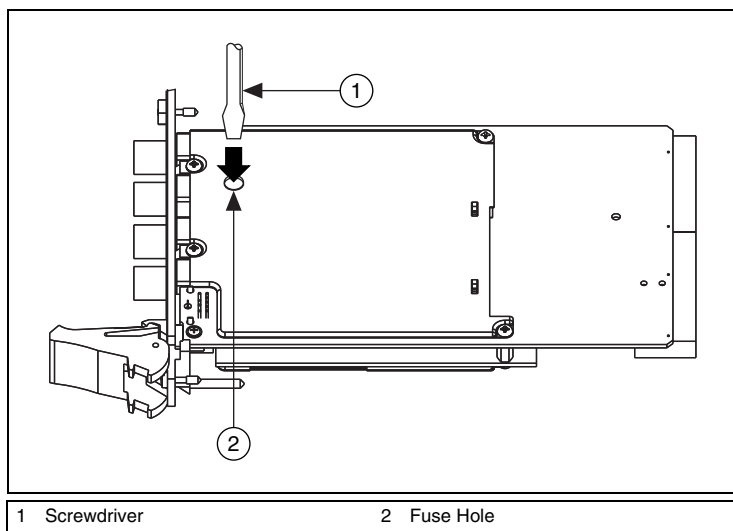

Figure 19. Removing the Fuse from the NI PXI-4070, NI PXI-4071, or NI PXI-4072
3. Locate the fuse hole shown in Figure 19.